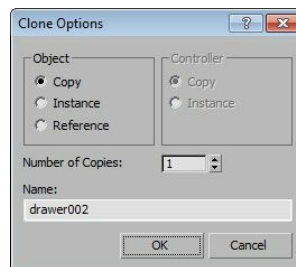

Figure 2-51 The **Clone Options** dialog box
1. Activate the Front viewport and make sure *drawer001* is selected. Next, move the cursor over the Y axis, press and hold the SHIFT key, and drag *drawer001* downward until the value in the Y spinner of the Coordinate display at the bottom of the screen becomes around **-29**. Release the left mouse button and the SHIFT key; the **Clone Options** dialog box is displayed, as shown in Figure 2-51.